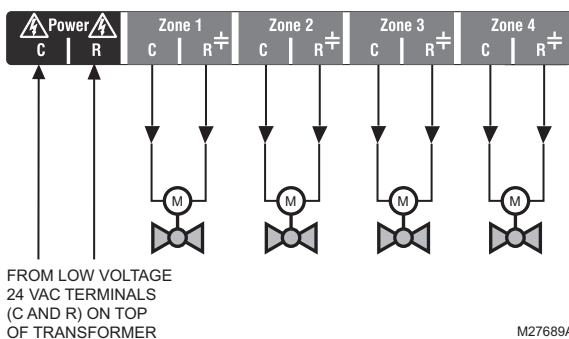

Fig. 12. Wiring an AQ15540B Zoning Module for use with low voltage zone valves without end switches.
1. Low voltage zone valves without end switches: Using Fig. 12 on page 11 as a guide, run jumper wires from the R and C terminals on the secondary of the AQ252's transformer, through the wiring channel across